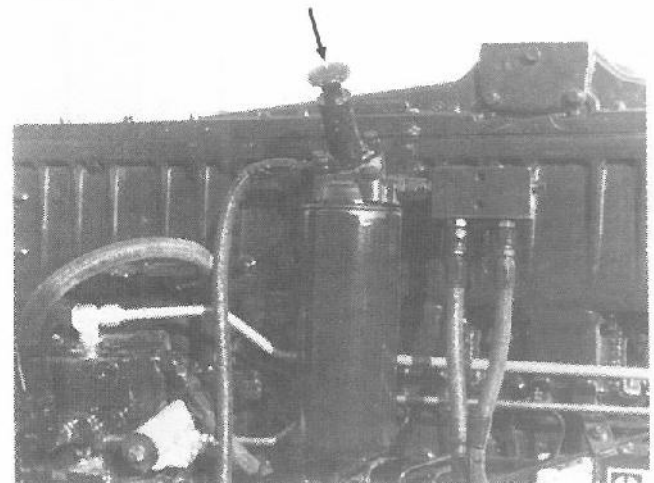

Figure 60: Fuel Priming Pump (Cat)
Priming the Fuel System (Fig. 60)
2. Turn the pump counterclockwise from the locked position. (Fig. 60)